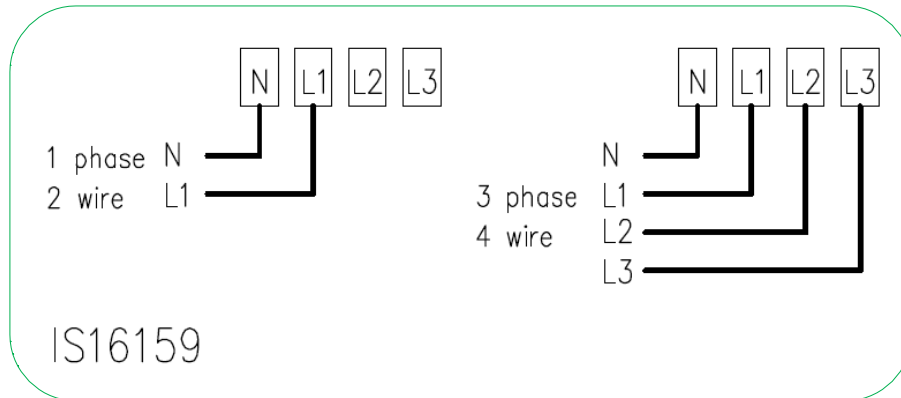

Figure 4: Connection diagram of AC550/AC750
To each connection diagram, corresponding identification number (IS number) is assigned and it is printed on the nameplate (see chapter 4.2.2. *Nameplate*). Connection diagram of the device is shown in Figure 4.
* See connection diagram (Figure 4)